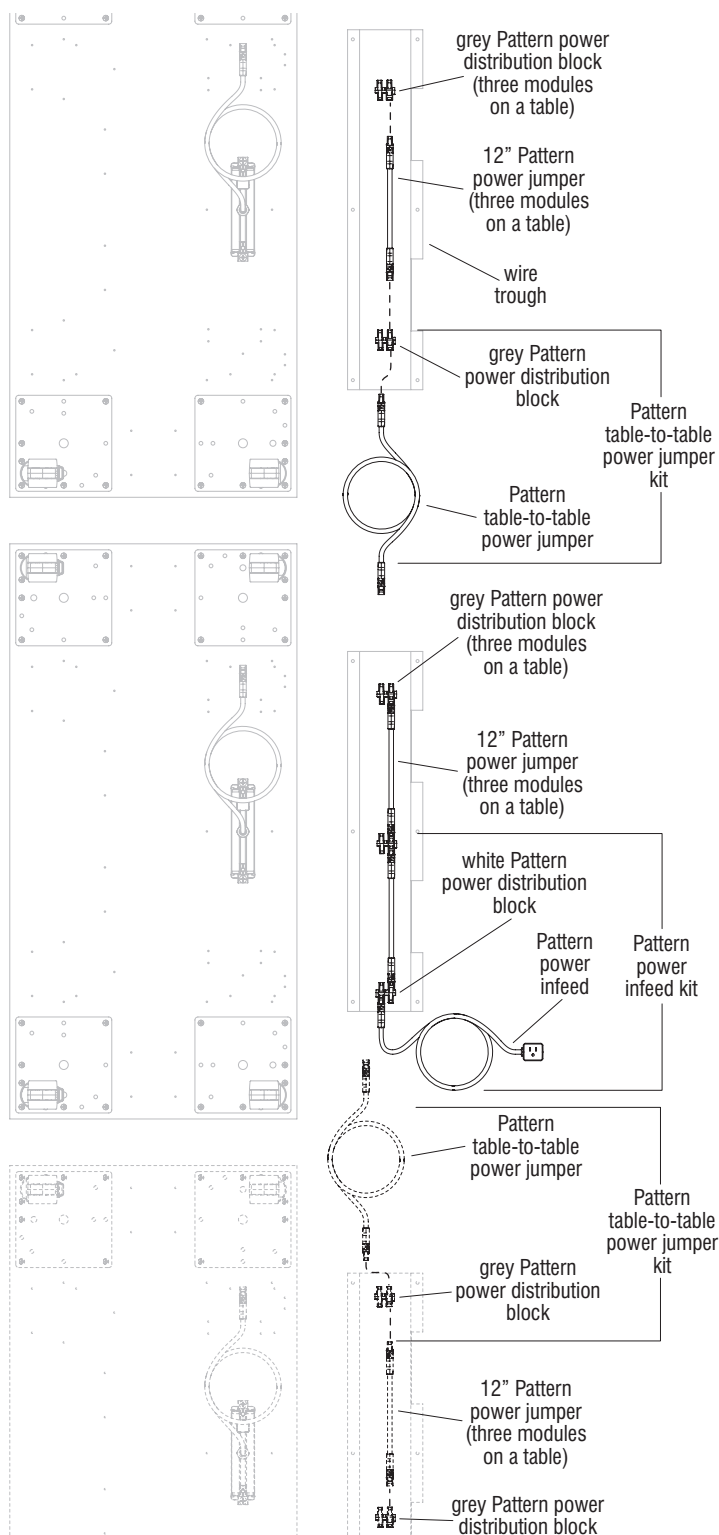

Figure 2 - (bottom view)
1. Take a Pattern table-to-table power jumper in hand and plug the jumper's male connector end into a grey Pattern power distribution block as shown in Detail B on page 8 and Figure 2 this page. Orient the table-to-table power jumper's female connector end out of the trough and toward the previous table, in the direction of the table with the Pattern table-to-table power jumper kit (Figure 2 & page 8, Detail B).
2. Step 1 above assembles the Pattern table-to-table power jumper kit (Figure 2). If the table being assembled will have three power modules, an additional 12" power jumper and grey power distribution block must be added after the Pattern table-to-table kit (Figure 2 & page 8, Detail B).
4. If the Pattern power infeed is located in-between two tables, connect the closest Pattern table-to-table power jumper, not connected to the run of tables, to the open available socket on the white Pattern power distribution block (Figure 2 & page 8, Detail B).